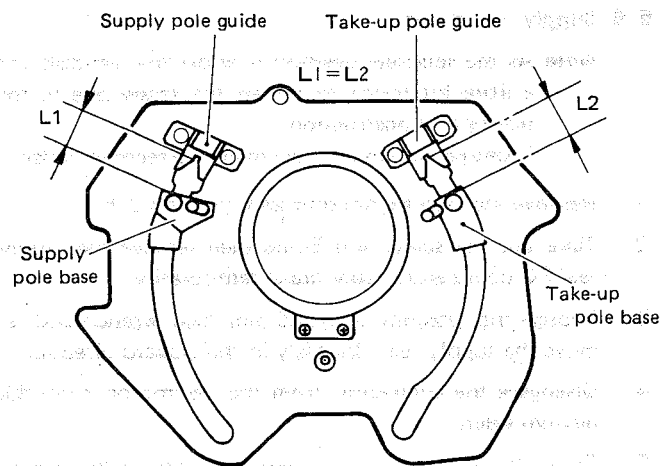

Fig. 2-18 Loading ring check
1. Take out the two screws (A) and remove the loading drive gear assembly.
4. Disengage the belt from the pulley, take out the two screws (B) and remove the motor from the loading gear assembly.
8. Turn the loading motor pulley by hand to move the loading ring slightly in the unloading direction. Check for equal spacing between the supply pole guide and supply pole base, and between the take-up pole guide and take-up pole base. See Fig. 2-18. If not equal, the loading gear ass'y mounting position is incorrect. Repeat the above step 7.